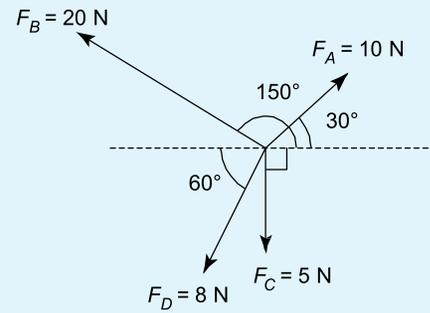

Figure 4.34
12. With reference to Figure 4.34, which of the following statements is false?